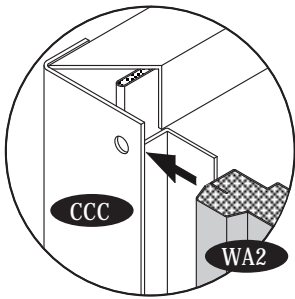

Fig.1
19. Insert the center joint (CJC) in between the top 'U' channel (TC4C & TC3C) and wall panel. See fig.1. Line up the holes with top 'U' channel and secure with (S1) screws. See fig.2. Line up the top 'U' channel edge hole with corner column and secure with (S1) screws at both ends. See fig.3 & 4.
21. Insert the wall panel (WA2) into the base 'U' channel and slide into the corner column. See fig. 1&2. Make sure the wall panel must be inserted fully into the corner column. See top view. Secure the corner column (CCC) to the base 'U' channel (BC1C) by (S1) screws from outside. See fig.3.